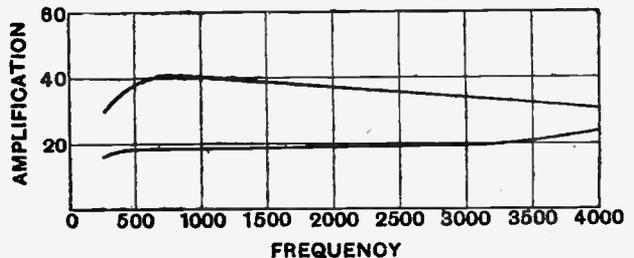

Fig. 14.—Curves of Marconiophone "Ideal" transformer. Upper curve with "R" valve, lower curve with D.E.3 valve.
45 of January 13th issue) ought now to have a definite meaning, and the gradual slope from 1,000 cycles upwards indicates that at some frequency a resonance point will be attained. Also, from the formula it will be evident that with any given transformer which shows a rising characteristic the rise can be reduced by augmenting $(r+R)$, *i.e.*, by using a higher impedance valve. This is illustrated in a concrete manner by the curves of Fig. 14, which show the characteristics of a 4:1 transformer with valves of high and of moderate impedance.
The upper curve of Fig. 14 shows a falling characteristic, and this is due chiefly to the alternating volt drop on the valve being of importance compared with that across the transformer primary. Although the primary inductive reactance is high, the capacity reactance is low, as an example will clearly show. Taking the valve resistance and primary of transformer as 40,000 ohms. $L=25$ henries and $C=0.001$ mfd., the reactances of L and C at 3,000 cycles are respectively 460,000 ohms and 55,000 ohms. Thus the transformation ratio will be—by calculation from these data—about 33, which is in close agreement with the value given in the upper curve of Fig. 14. This fall in amplification is due to the large internal resistance of the valve, which eliminates the resonance peak due to leakage. Having dealt with the rise and fall of the amplification curve above the normal resonance point (about 1,000 cycles in Fig. 14), there still remains the important lower frequencies where transformer curves fall away rapidly. Referring to the equivalent circuit of Fig. 13, capacity and leakage effects will be negligible below frequencies of the order of 300 cycles. The amplification is now
In the last section a simple mathematical argument was advanced to account for the shapes of amplification-frequency characteristics associated with transformer-coupled amplifiers. From what precedes, the following salient conclusions can be deduced: (1) A high-impedance valve of 40,000 ohms with a transformer of moderate inductance, say, 20 henries, is conducive to a lack of amplification of both upper and lower tones. (See Fig. 14, upper curve.)
(2) A low-impedance valve, on the other hand, is conducive to good amplification of the lower tones, but, in general, there is a tendency for the higher tones to be accentuated, due to an upward tilt of the characteristic. (Fig. 14, lower curve.)